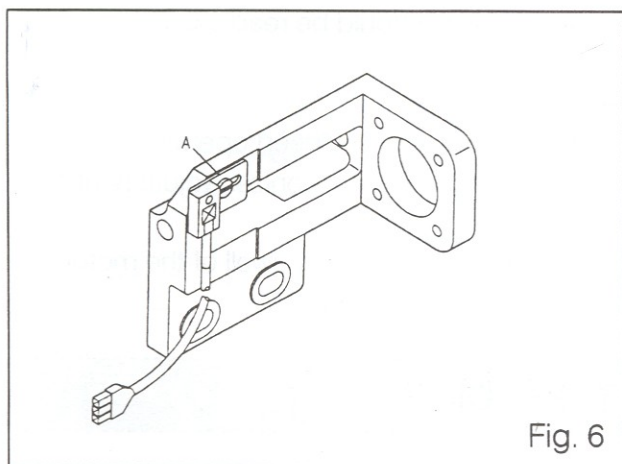

Fig. 6
6. The main function of the safety switch is to check and make sure if needle's thread & lower looper's thread trimmer returns to the right dead point after trimming is done. If the trimmer is not at its firm right dead point, the motor will not be able to work (Fig. 6)